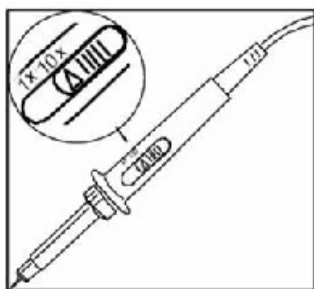

Figure 1-5 Setting the attenuation switch
① Connect the probe of the digital storage oscilloscope to the CH1 input, and set the attenuation switch of the probe to 10X (Figure 1-5).